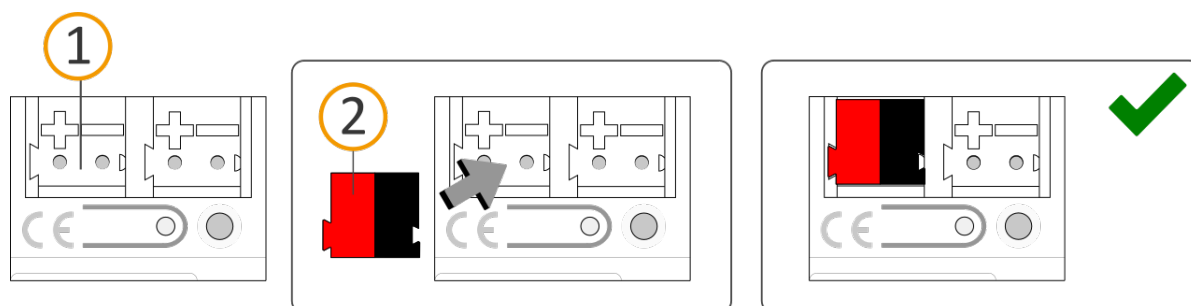

Figure 11: Connect the bus line
2. Connect the KNX/TP bus line (referred to below as the bus line) to the KNX connection of the device (see figure 11, item 1) by means of the supplied bus connection terminal (see figure 11, item 2). Polarity: left/red: "+", right/black: "-":
- a. Attach the bus connection terminal (see figure 11, item 2).